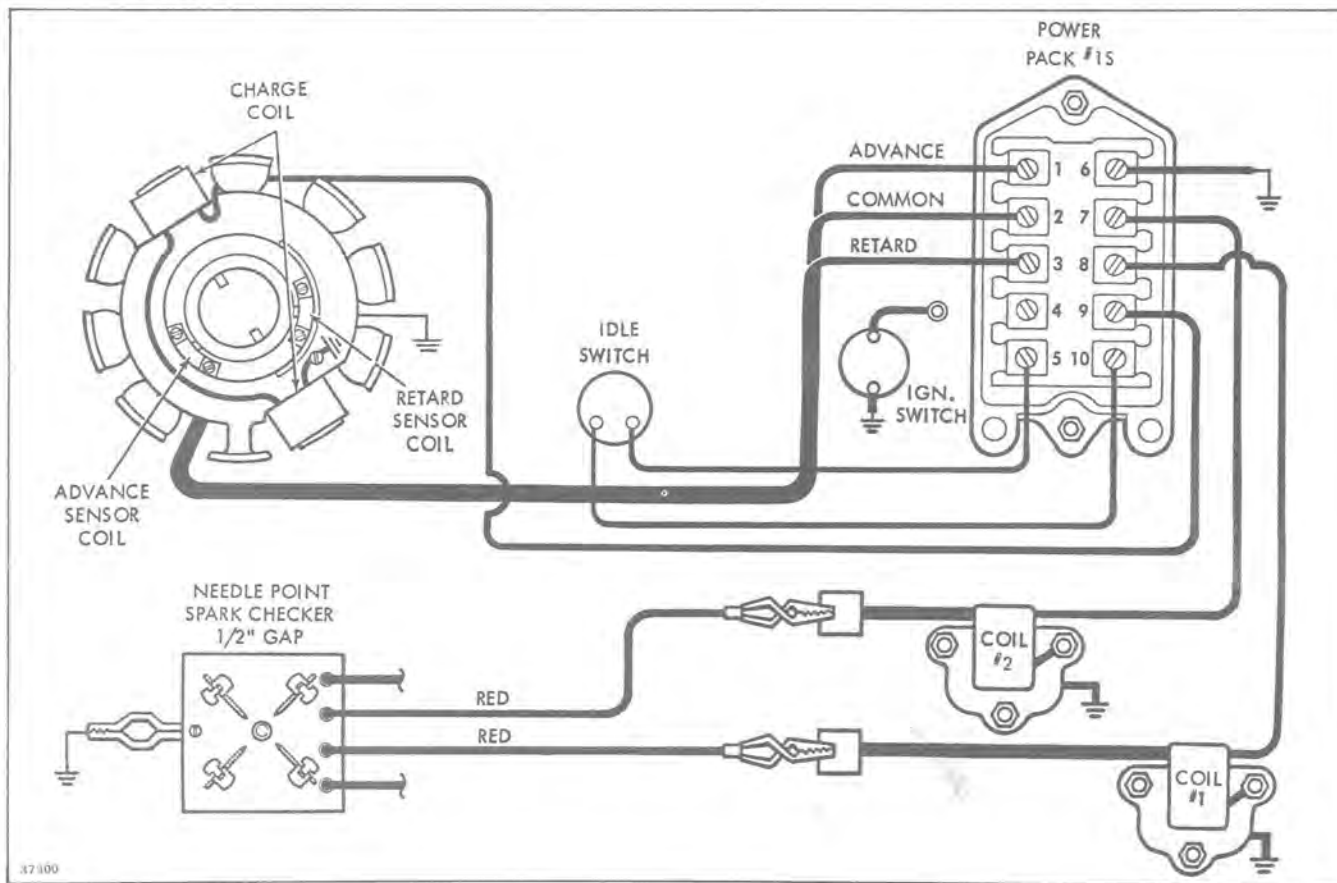

Figure 7-14
- A. Disconnect orange/black lead from Power Pack terminal #4. See Figure 7-14. Crank engine; if spark present go to step "B." If no spark go to Test #3.